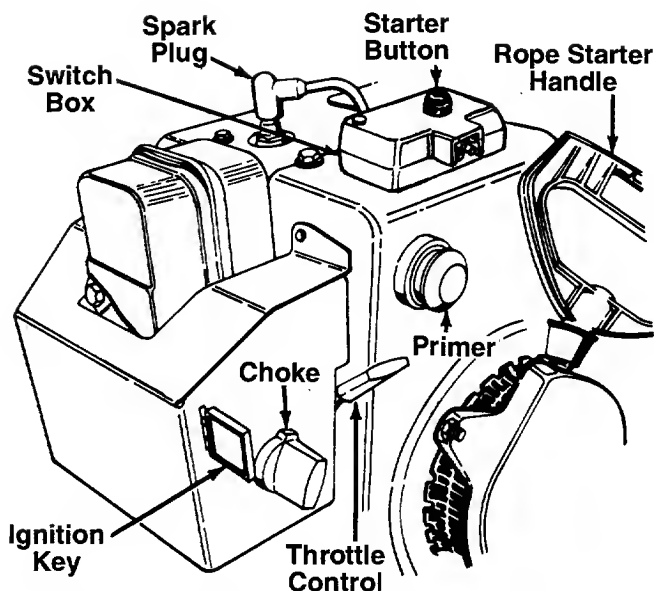

FIGURE 21.—Optional Electric Starter Shown
THROTTLE CONTROL (See figure 21)
SAFETY IGNITION SWITCH (See figure 21)
2. Make certain the auger and drive clutch levers are in the disengaged (released) position. Place the shift lever in NEUTRAL (N) position.
3. Move throttle control up to FAST position. Insert ignition key into slot. See figure 21. Be certain it snaps into place. Do not turn key.
6. Push starter button to crank engine. See figure 21. As you crank the engine, move choke knob to FULL choke position.
5. Push primer button two or three times. See figure 21.
6. Grasp starter handle (see figure 21) and pull rope out slowly, until it pulls slightly harder. Let rope rewind slowly.